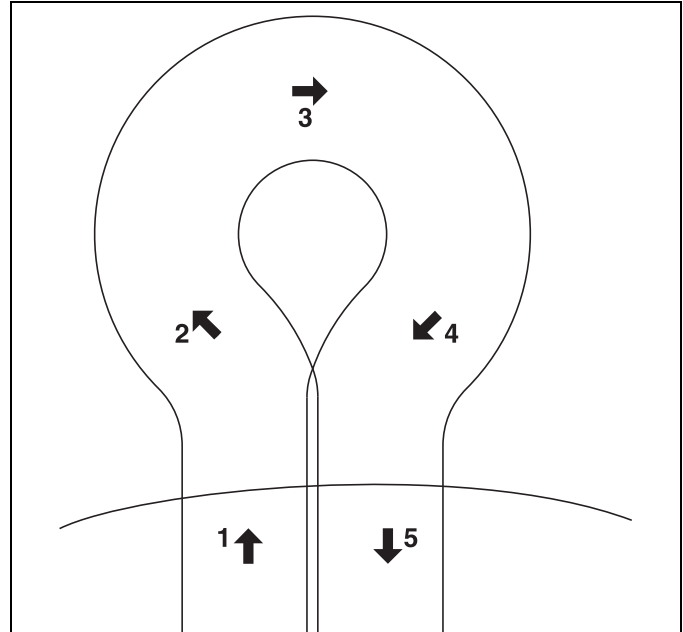

Figure 6E
- e. To turn to the right, start by turning mower slightly to the left (**2**). When the mower has moved approximately 1/2 its own width to the left, swing it around quickly to the right (**3 and 4**), guiding the mower with your right hand. This method makes it possible to turn around quickly with very few steps. [Figure 6E]